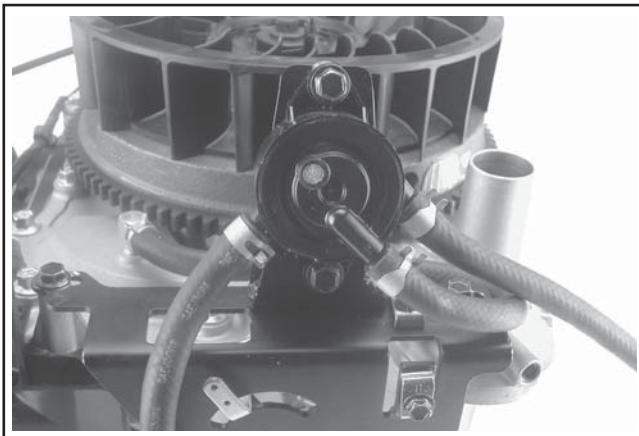

Figure 10-73. Installed Fuel Pump.
3. Connect the pulse and fuel lines to the fuel pump and secure with clamps. See Figure 10-73.